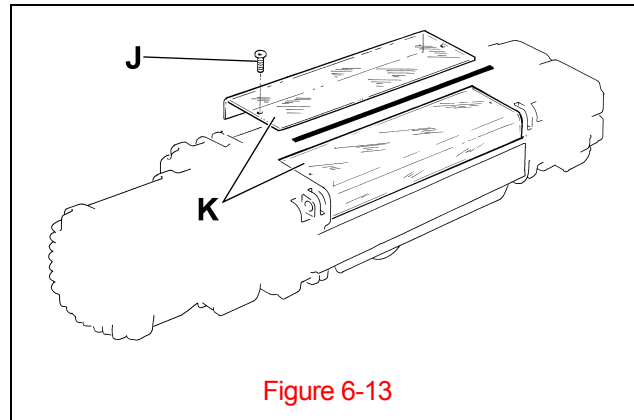

Figure 6-13
- 9) Remove the Dust Cover (K) by unscrewing the Dust Cover Screws (J) (see **Figure 6-13**). **Note:** Dust cover is an option and may not be present.